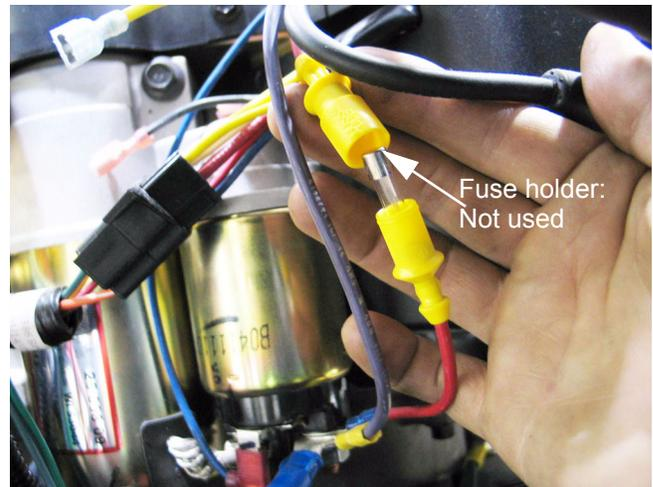

Figure 28.22
28.22. There is a second fuse holder and fuse in the harness, to the rear of the starter motor. This fuse is used for other applications of the engine, and is not of any importance in this electrical system. See Figure 28.22.